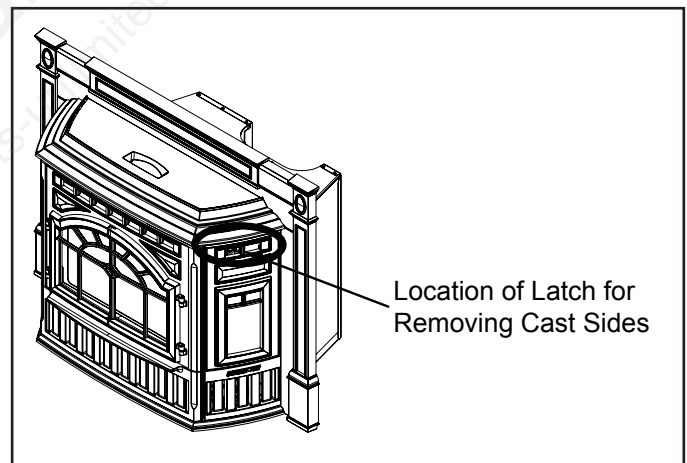

Figure 41.2
1. There is a latch on the back side of the cast side in the middle of the top opening of the cast side as indicated in **Figure 41.2.**